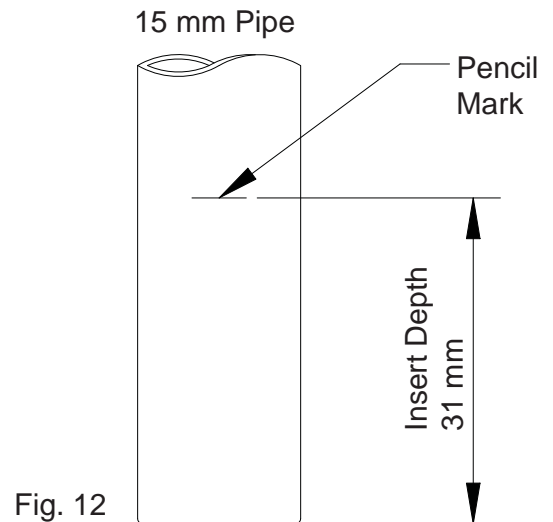

Fig. 12
Ensure the pipe is free from all score marks and deformities in the area of the insertion depth (Fig. 12) and cut the pipe square, removing all burrs and sharp edges to prevent damage to the sealing 'O'-ring.
2. Prior to inserting pipe into fitting, mark the insert depth on the wall of the pipe with a soft pencil at a distance of 31 mm from the end to be inserted (Fig. 12).